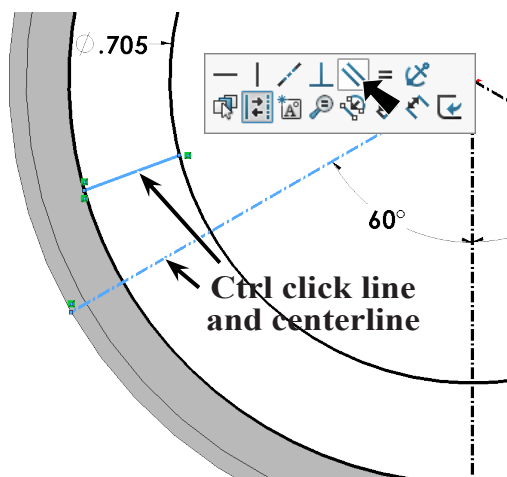

Fig. 17
Step 14. **Ctrl click line and angled radius centerline** to select both. Release Ctrl key and click **Make Parallel**  on the context toolbar, **Fig. 17**.